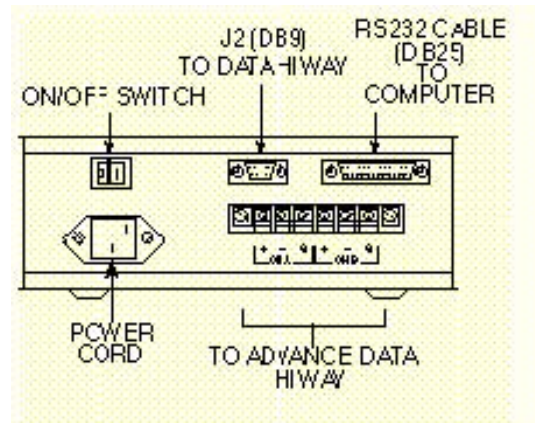

Figure 9. DHIE Wiring Connections
6. For new installations, refer to Volume 1. Installation Manuals "Data Hiway Installation and Termination" manual for installation information. New installation connections are made to terminal strip on the rear of DHIE; see Figures 9 and 10. Attach the Data Hiway cables to the appropriate channels. **Only** ground the shields of each cable at one end.